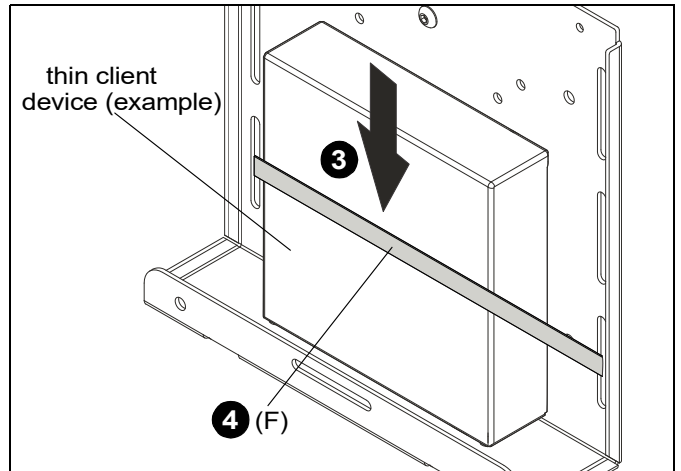

Figure 8
3. Carefully place thin client device inside Thin client bracket (E). (See Figure 8)
4. (Optional) Use 32" connecting strap (F) to secure thin client device to thin client bracket (E). (See Figure 8)